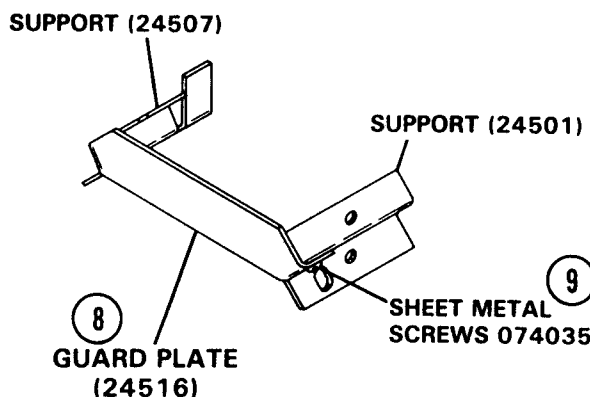

FIGURE 72
- Before installing the Rotary Brush or Rotary Mower, assemble the two Supports to the Belt Guard Plate with the two Sheet Metal Screws (74035) provided as shown in Figure 72.